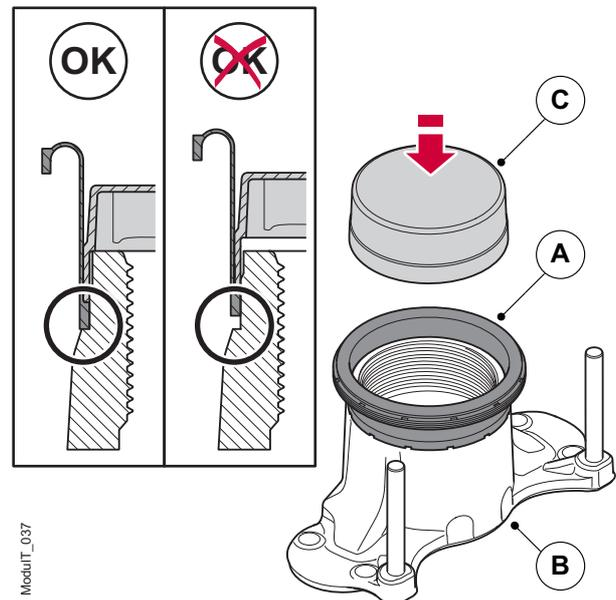

Figure 44. Fitting the adjustment spindle bellows
4. By hand, using Haldex special tool P/N 95224 (C) "6 Tools", firmly press the adjustment spindle bellows (A) into position on the thrust plate (B), see figure 44.
Also, re-check the bellows is seated correctly on the thrust plate, see previous figure 44.